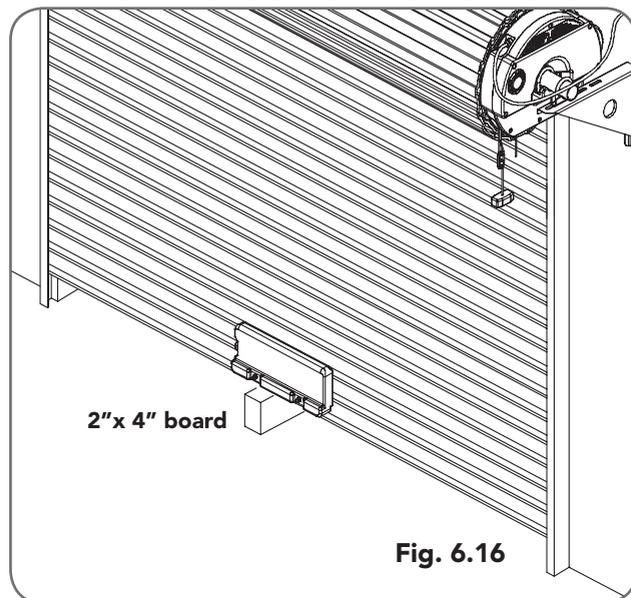

Fig. 6.16
- Place an object approximately 1-1/2" (38mm) high (or a 2" x 4" board laid flat) on the floor under center of sheet door opening (**Fig.6.16**)